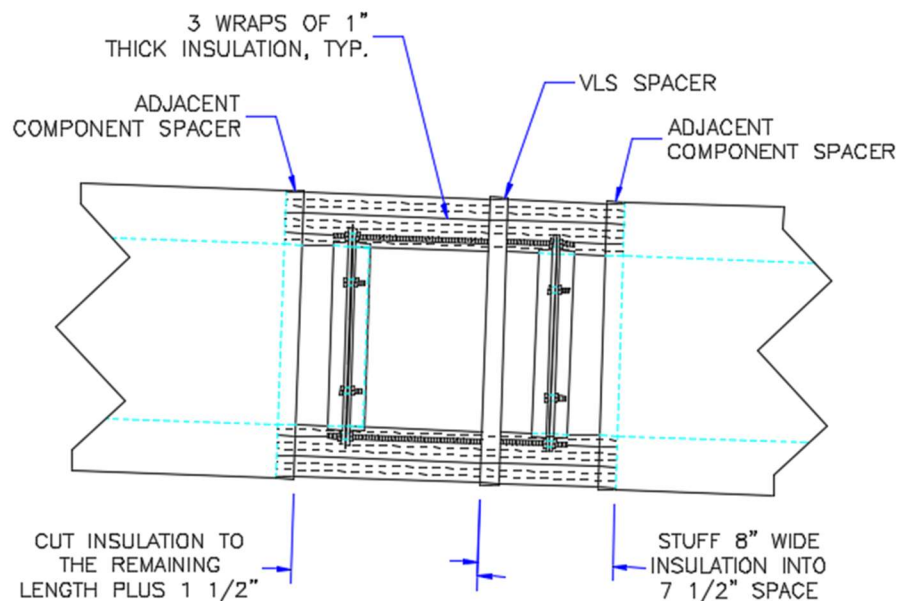

Figure 10: Wrap three wraps of insulation for GRZ and four wraps for GR4Z.
19. Wrap 3 wraps of the 8" wide x 1" thick insulation that was provided for the completely installed adjacent component in the 7-1/2" space between the completely installed adjacent component and the spacer on the VLS. Make sure to overlap any seams in the wrap. (See figure 10)
20. Cut the 1" thick insulation provided with the VLS to 1 1/2" wider than the remaining gap between the VLS spacer and the next adjacent component spacer. Wrap the liner 3 times with insulation being careful not to leave any gaps and overlapping any seams. (See figure 10)